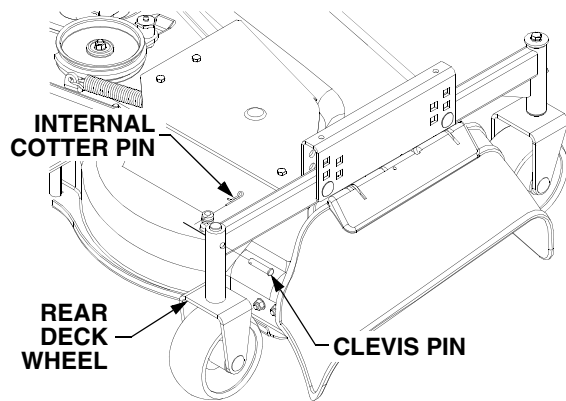

Figure 62
- Remove the internal cotter pins and clevis pins to allow the rear deck wheels to pivot. See Figure 62.
- Remove the internal cotter pins and clevis pins to allow the rear deck wheels to pivot. Refer to Figure 62.